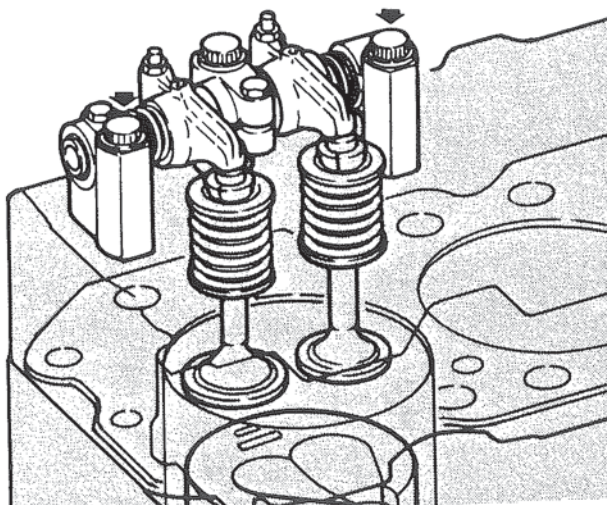

Figure 3. Disassembly of Rockershaft.
1. Remove bolts securing rocker shaft supports to rocker shaft. Figure 3.